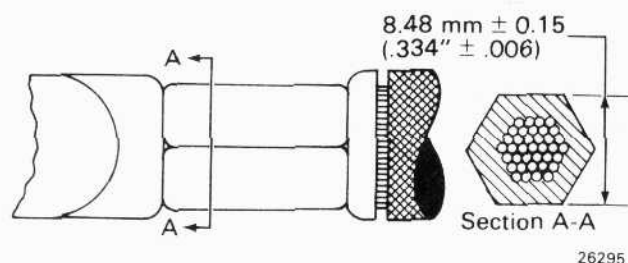

Fig.4 - Plug Terminal Crimp
- c. Crimp terminal onto cable as shown in Fig. 4.